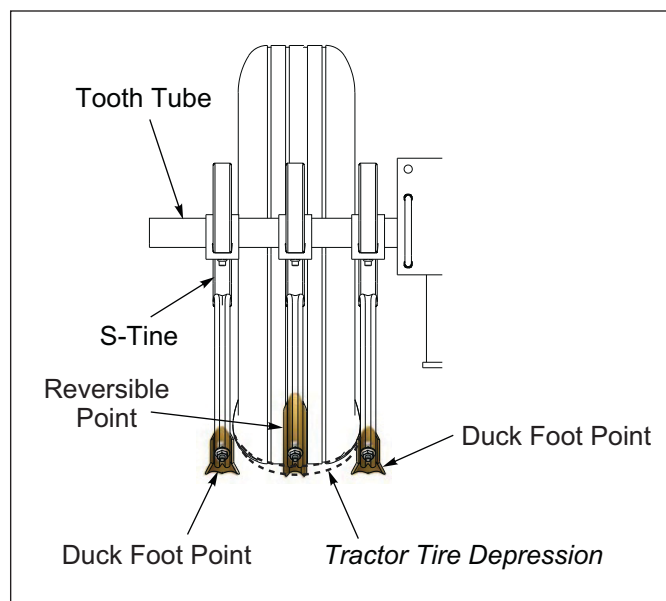

Figure 2-52: S-Tine Point Position
4. Assemble the Points to the S-Tines. The suggested pattern is to assemble the Reversible Point onto the center S-Tine and a Duck Foot Point on the S-Tine on either side of the center S-Tine with 3/8-16 x 1-3/4 Plow Bolt and Flange Locknut. **See Figure 2-52.**